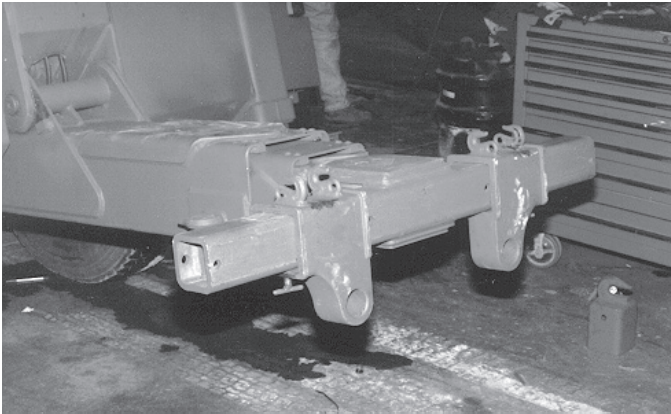

FIGURE 4A.13
- (a) Install Fork Adapters on crossbar as shown in Figure 4A.13.
- (b) Attach Pintle Hook Bracket to fork adapters. Install the two (2) pintle hook bracket retaining pins and tighten "T" handles on fork adapters. See Figure 4A.14.